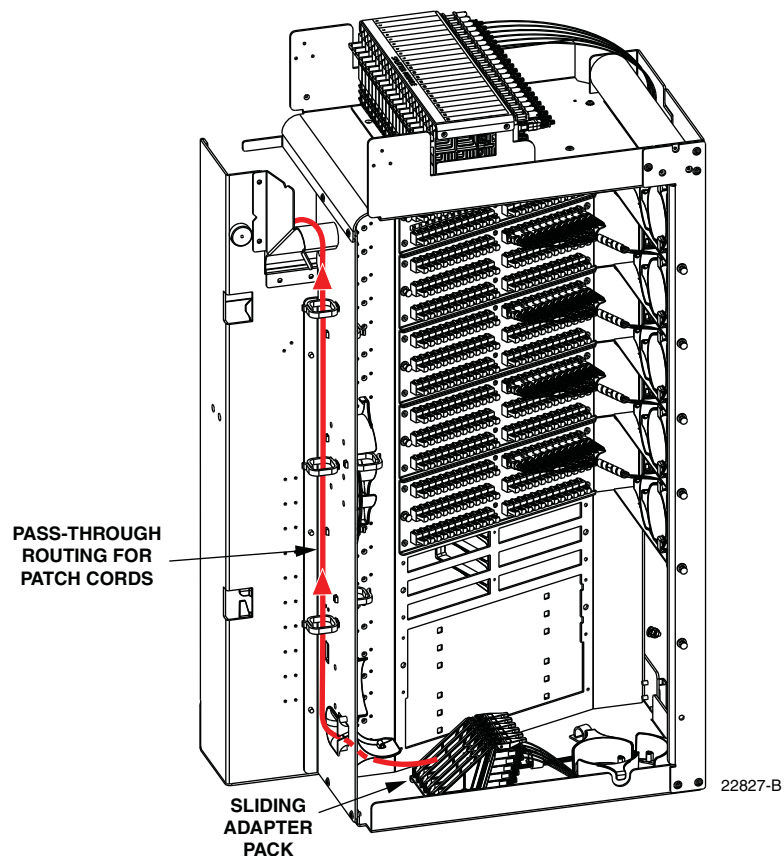

Figure 52. Routing Pass-Through Patch Cord From Sliding Adapter Pack
10. Route the pass-through patch cord to the front side of the swing frame as shown in Figure 52.